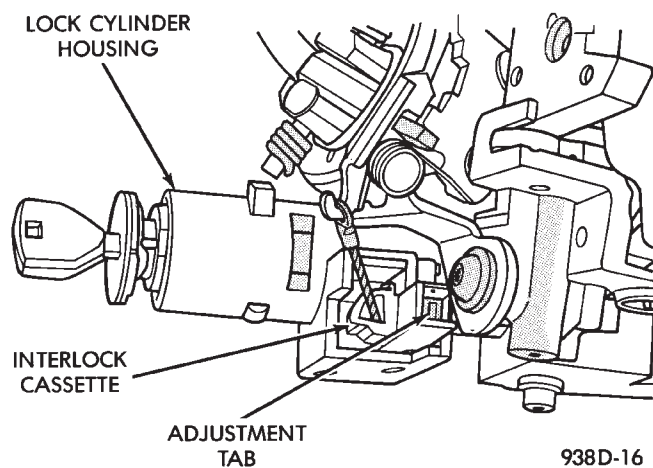

Fig. 12 Ignition Interlock Adjustment Tab—Column Shift
(3) Slide the cassette into the housing until it locks in place.
(4) To adjust the interlock system, push the adjustment tab in until it stops (Fig. 12). The adjustment tab will click as it moves into position. Ensure the tab is fully depressed.